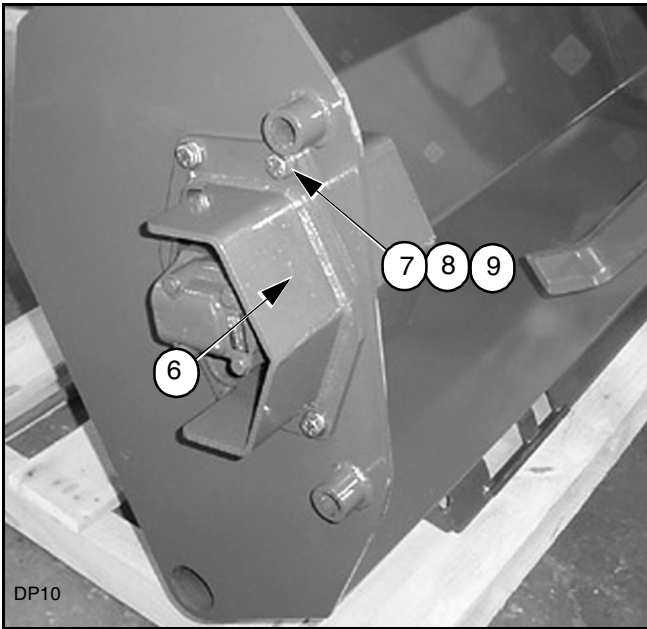

Figure 19
Install the motor housing (6) into one side of the chassis using four 1/2" x 1-1/2" bolts (7), eight 1/2" flat washers (8) and four 1/2" - 13 nuts (9) as shown in Figure 19. Torque to 120 lbs-ft (163 N-m).
Install the motor housing into other side of the chassis. Install the motor housing (6) into one side of the chassis using four 1/2" x 1-1/2" bolts (7), eight 1/2" flat washers (8) and four 1/2" - 13 nuts (9) as shown in Figure 19. Torque to 120 lbs-ft (163 N-m).